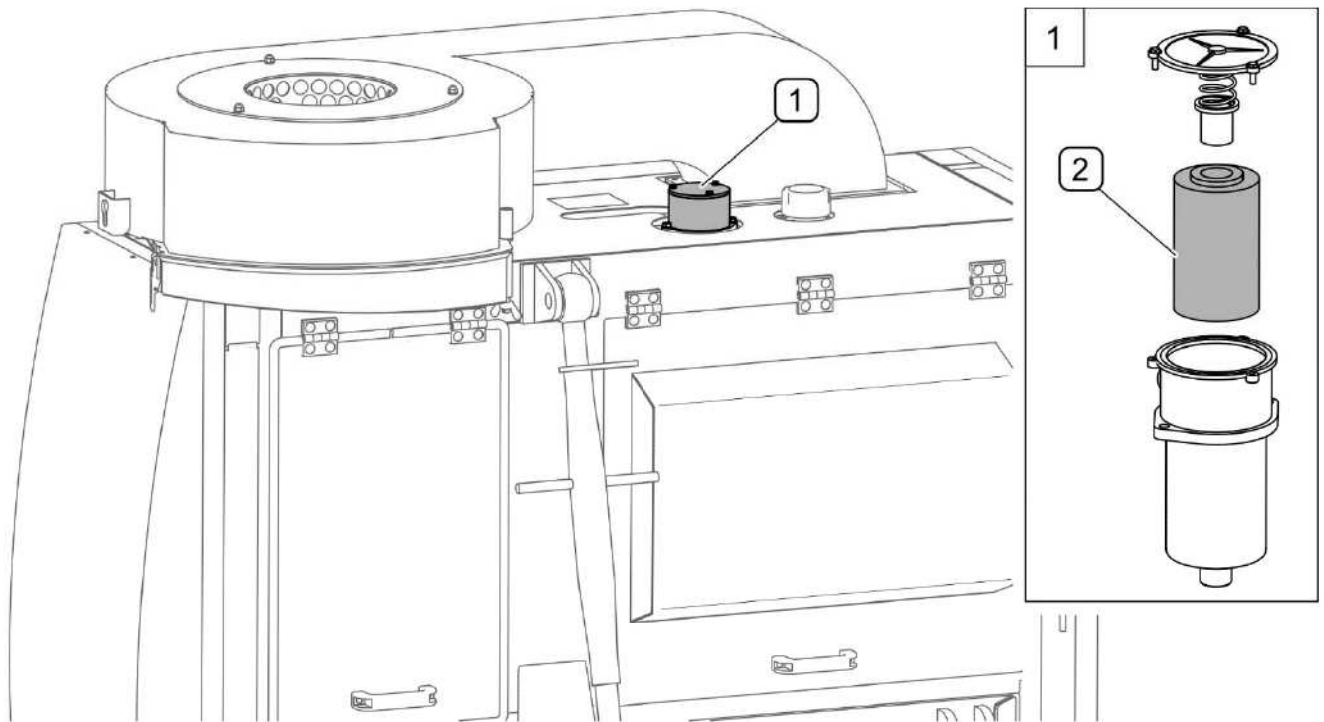
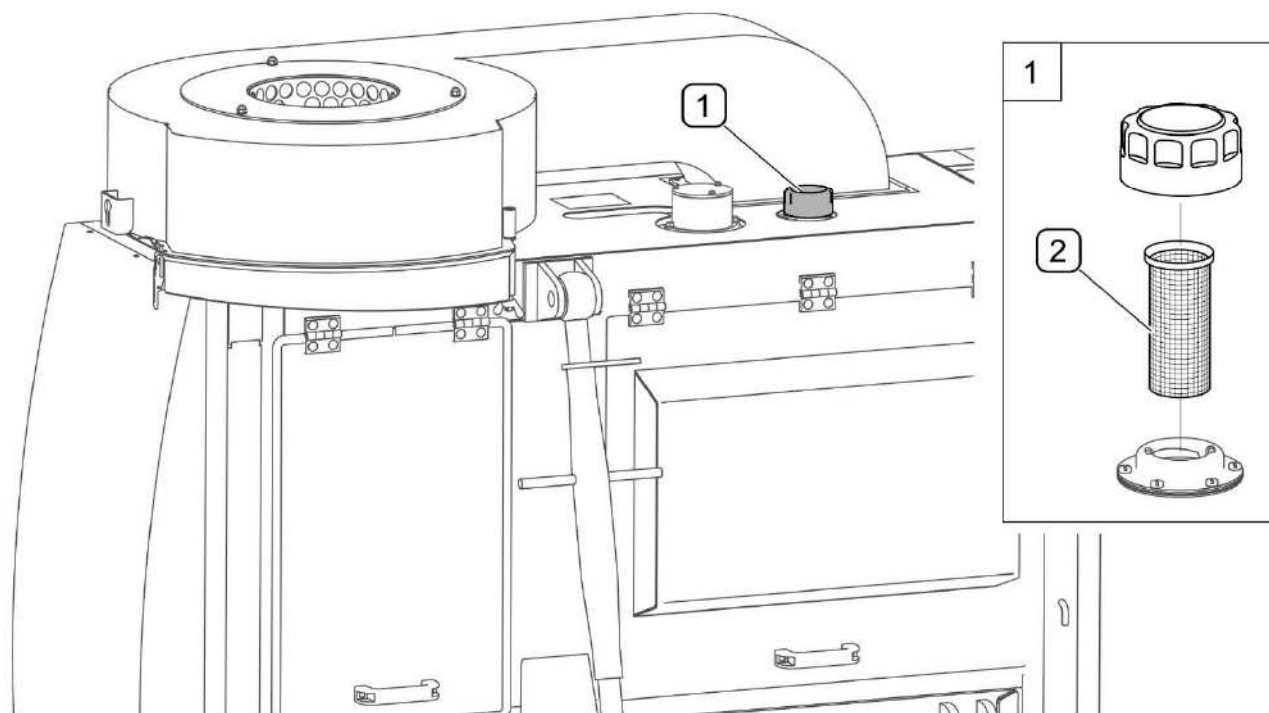
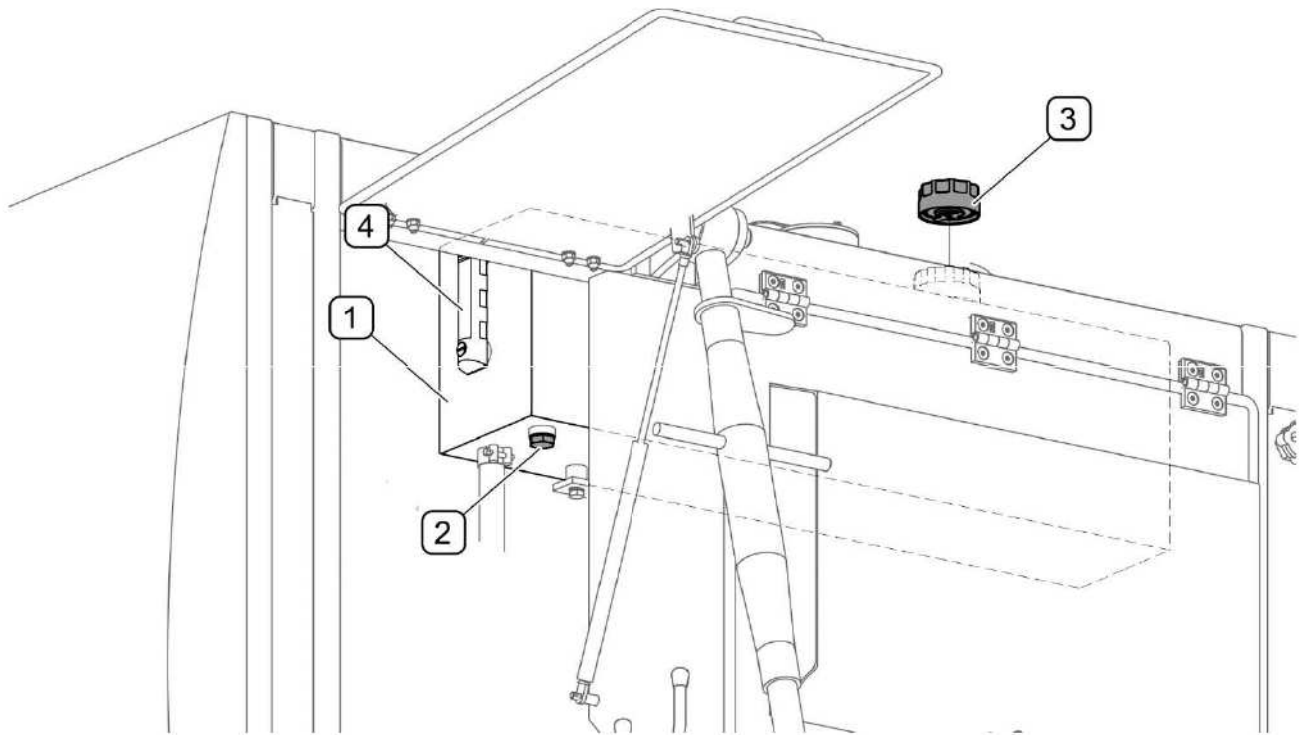

FIG. 5.19 Replacement of return oil filter cartridge
FIG. 5.20 Inlet filter
FIG. 5.21 Changing oil in hydraulic system tank
Return oil filter (FIG. 5.19) is located in the upper part of oil tank. Return oil filter is equipped with filter cartridge which should be periodically replaced.
Inlet filter (FIG. 5.20) is located inside inlet opening and should be inspected and cleaned periodically. Unscrew cap (1), take out mesh filter cartridge (2) and clean in washing agent.
Oil tank (1) of hydraulic system contains 40 litres of HL-32 hydraulic oil. Check periodically the oil level on the oil level dipstick (4) (FIG. 5.21). When changing the oil, replace the return oil filter cartridge (FIG. 5.19) and clean the inlet strainer (FIG. 5.20). The hydraulic system is vented automatically during machine operation.
In order to change oil (FIG. 5.21):